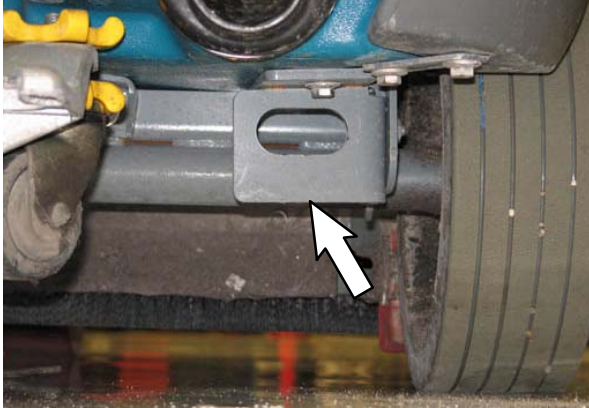
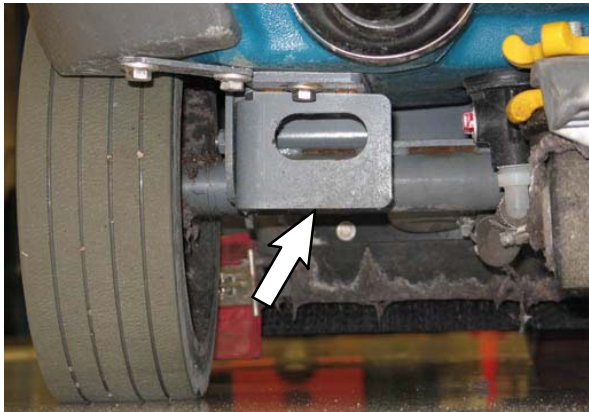

FIG. 1
FIG. 2
1. Remove the right tank support bracket and the left tank support bracket from the machine. Set the four M8 X 1.25 X 20 hex screws, the four M8 X 1.25 X 25, and all flat washers aside. Discard both brackets. (Fig. 1 / Fig. 2)